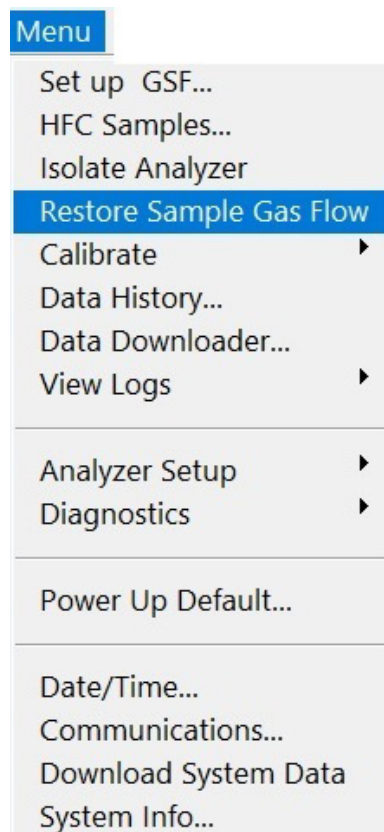

Figure 11: Starting Gas Flow
11. If analyzer has valves option, establish sample gas flow by pressing the menu key and selecting **Restore Sample Gas Flow** as shown in **Figure 11**. Verify that the main screen indicates flow.
1. Restore sample gas flow to moisture sensor by selecting **Restore Sample Gas Flow** as shown in **Figure 11**.